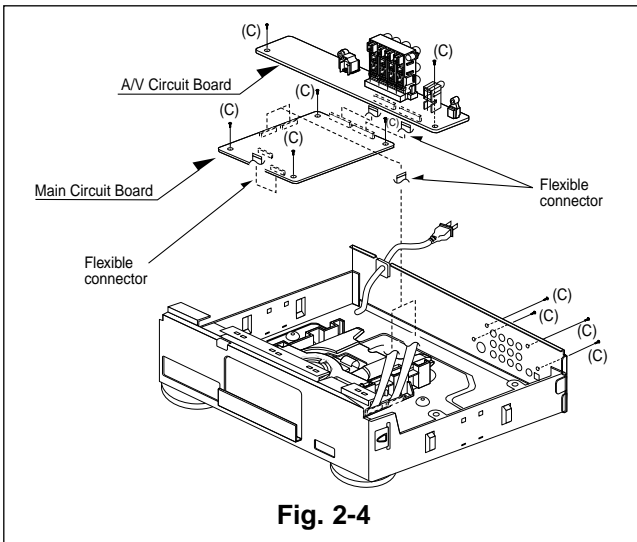

Fig. 2-4
2. Release 10 screws (C), and take out the main / AV circuit board.(See Fig.2-4)